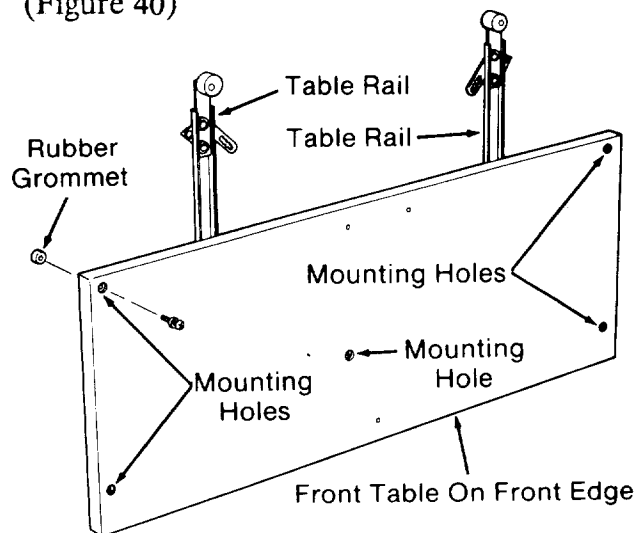

Fig. 40
6. Put a *mounting screw* through each of the *mounting holes*. Then put a *rubber grommet* on the bottom of each *mounting screw*. (Figure 40)